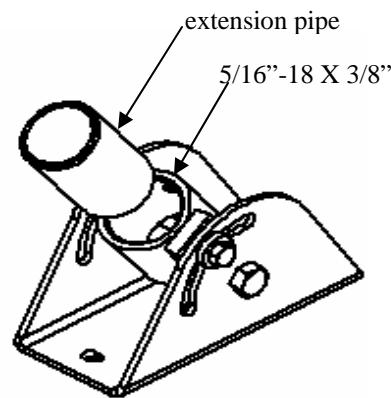

Figure 2. Assembly
4. Install extension pipe in coupler and secure using the 5/16”-18 X 3/8” set screw (see Figure 2).